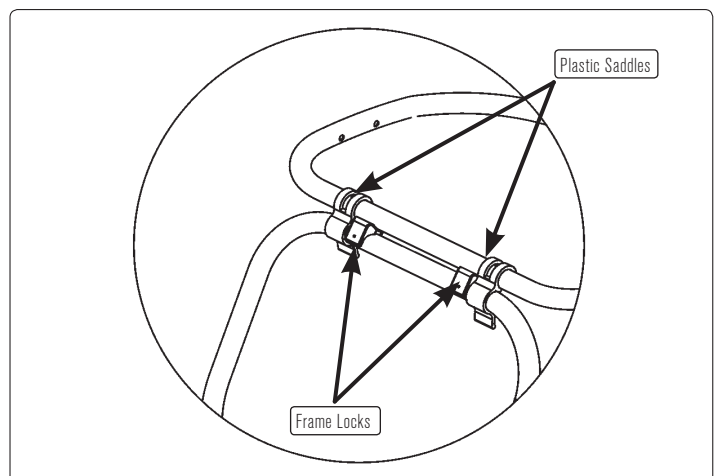

FIGURE 3
2. Rotate frame locks and snap onto rear tube. **FIGURE 3**